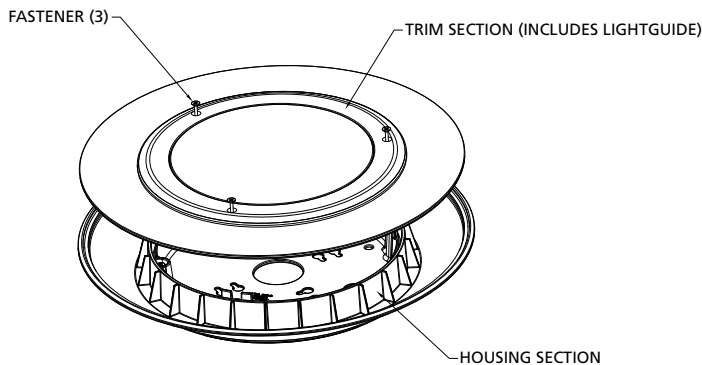

Figure 2
- Using a T20 Torx® tamper-resistant or Phillips drive (depending on model/option ordered) bit, loosen - but do not remove - fasteners (3) securing the trim section to housing section and lift off trim section. Store the trim section in a location free of debris and safe from accidental damage. Handle the perimeter lightguide lens carefully as it is essential for proper fixture operation/aesthetics. See Figure 2.